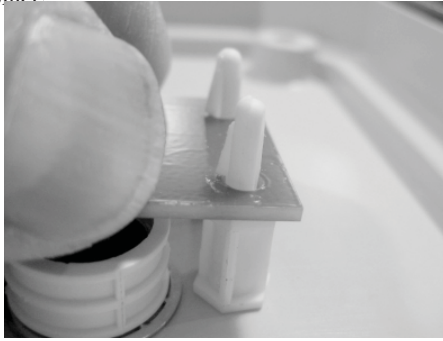

Figure 37 - Press the end of the Indicator Board completely down on to its supports
- d. Move to the end of the board. Using two fingers as shown in Figure 37, gently press this end of the Indicator Board completely down onto the nylon support. A quiet “click” may be heard when the supports lock into place.